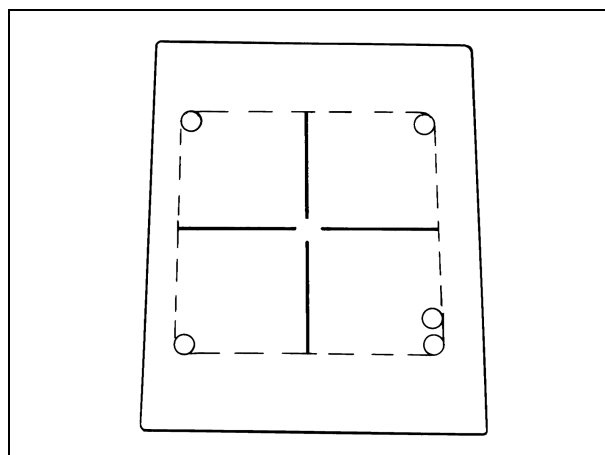

Fig. 5
- Mark the four corners with coins and mark one of the corners with two coins (Fig. 5).